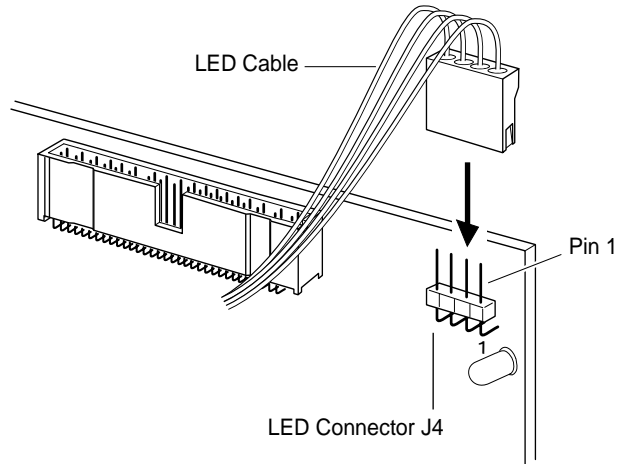

Figure 2-15. SCSI LED Connector
- 2 Connect the LED cable to the SCSI activity LED connector on the host adapter, as shown in Figure 2-15.